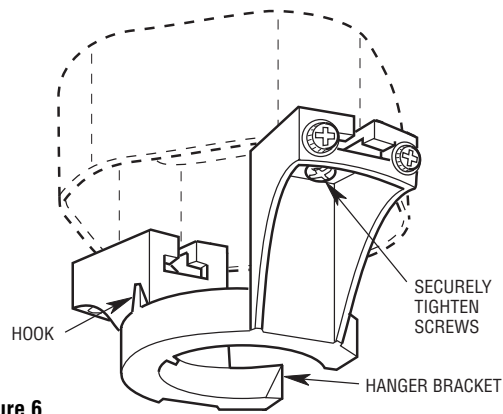

Figure 6
2. Slide the hanger bracket onto the outlet box screws. Center the bracket over the outlet box and then securely tighten the screws (Figure 6).